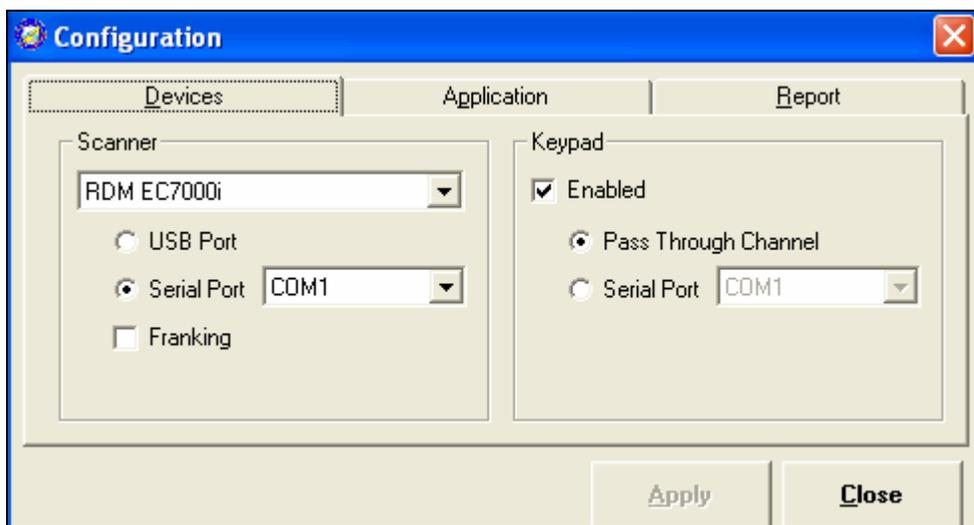

Figure 2.0.7
2. Click on **'File'**, then **'Configuration'**, then click the **'Devices'** tab. The following screen appears (Figure 2.0.7)
4. If the scanner is using a serial connection, set up the configuration as described in this step in order for the Yes/No keypad to work. On the left side of the screen, pictured in Figure 2.0.7, click the radio button for **'Serial Port'**. Select an available COM port by using the down arrow in the **'Serial Port'** field. On the right side of the screen beneath the **'enabled'** field, click the radio button for **'Pass Through Channel'** then click the **'Apply'** button.